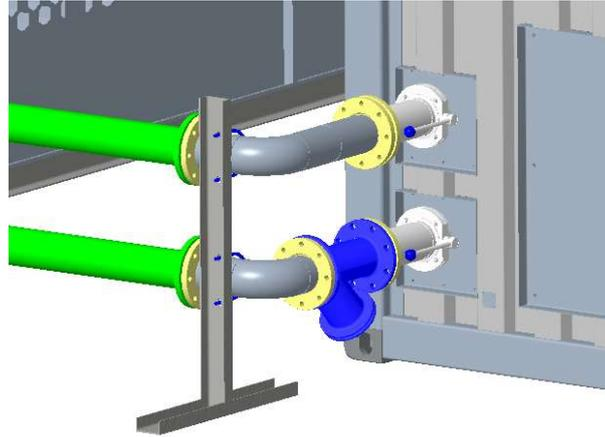

Figure 4-3 The direction of the handle of the butterfly valve
- 1) First of all, find two supply and return pipes (short, universal, with valves on the pipe) in the container wooden box, labeled GL14 and GL15; use stainless steel sanitary clamps (double hinges) (ISO 133/304/PN16) with gaskets to connect to the two supply and return connections, it should be noted that the gaskets should not be damaged, worn, deformed; when connecting, you need to pay attention to the direction of the butterfly valve handle, to maintain consistency with Figure 4-3